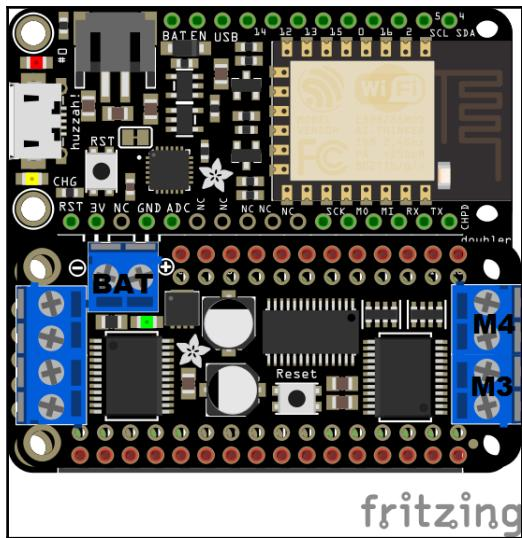

Figure 6.21: Placing the DC Motor FeatherWing on the FeatherWing Doubler
5. Place the Adafruit Stepper + DC Motor FeatherWing on the FearherWing Doubler next to the Feather HUZZAH ESP8266 (*Figure 6.21*):